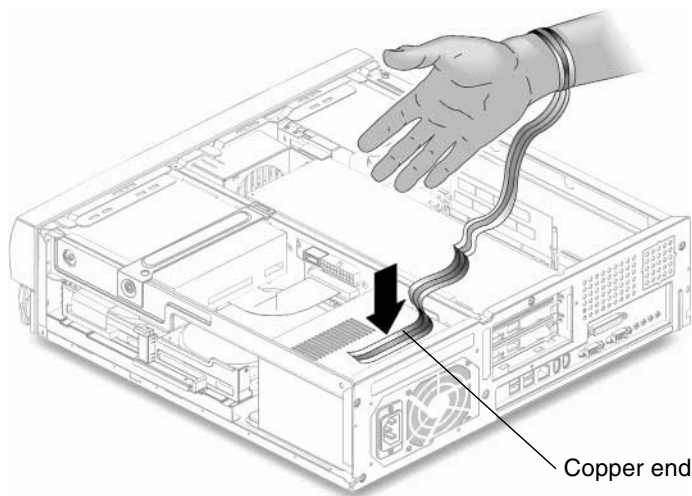

FIGURE 3 Attaching the Wrist Strap to the Chassis
3. Attach the copper end of the wrist strap to the chassis (FIGURE 3).